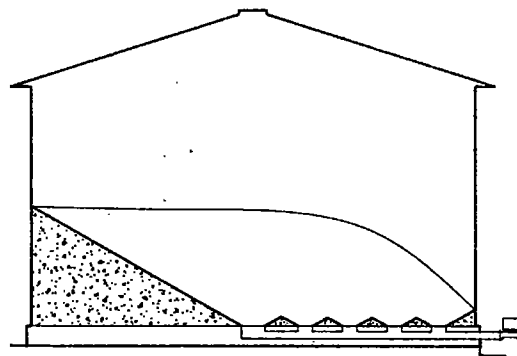

FIG. 5
- D. When grain flow stops, shut down the unloader and lock out. The grain remaining should appear as in Fig. 5.